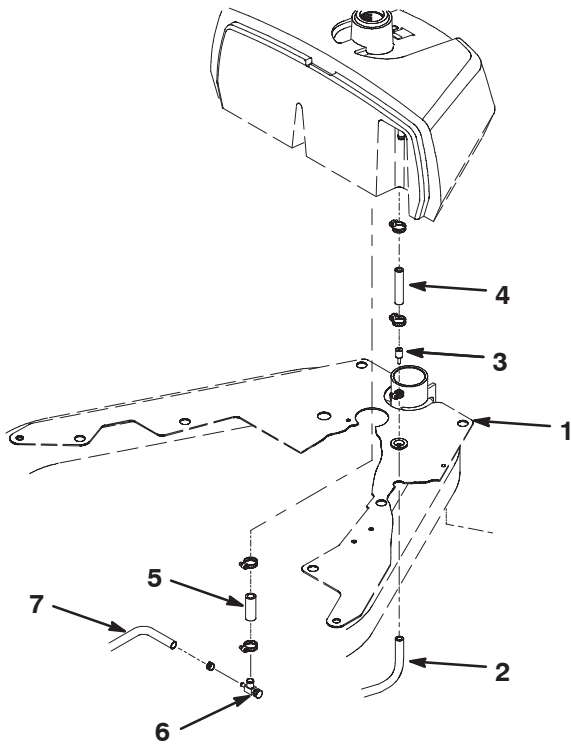

Figure 6
- A. Remove the (3) capscrews and washers securing the fuel tank mounting plate to the frame and the support bracket (Fig. 6).
2. Loosen the hose clamp and disconnect the fuel hose from the fuel fitting (Fig. 6).
3. Remove (3) capscrews and flat washers securing the fuel tank to the mounting plate (Fig. 6). Remove the tank from the mounting plate being careful not to damage any fuel hoses.
4. Loosen the hose clamp and disconnect the fuel hose from the fuel tank (Fig. 6). Discard the hose.
6. Loosen the hose clamps and disconnect the fuel hose from the fuel tank and the fuel shut off valve (Fig. 6). Note fuel shut off valve orientation. Discard the hose.